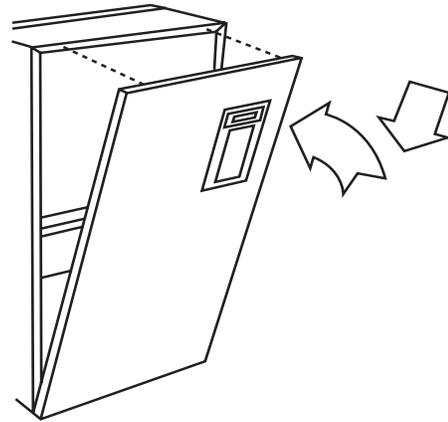

Fig. 15 - Furnace Door Replaced
7. Replace main furnace door. (See Fig. 15.)
5. Replace the main furnace door. (See Fig. 15.)